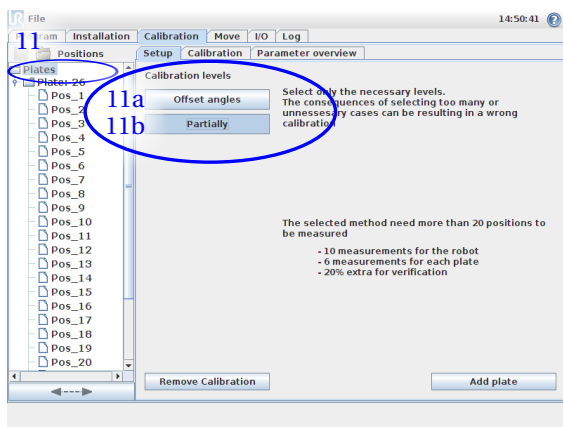

Figure 1.9: Select the top of the tree item on the left to be able to select the level of calibration.
- (11) Select the top of the tree item "Positions" on the left to be able to select the level of calibration, see figure 1.9.